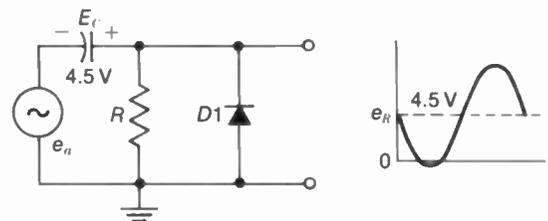

FIGURE 14-10 POSITIVE DC INSERTION WITH DIODE DC RESTORER.
**Positive dc restorer.** At the grid of the picture tube, the polarity of the dc insertion is positive, to reduce the negative bias for light scenes. For positive dc insertion in Fig. 14-9, the battery would be reversed in a or the diode inverted in b. The results are shown in Fig. 14-10. Here the negative peak of ac signal drives the diode cathode into conduction. The diode current charges  $C$  with the cathode side positive. Finally, the waveform here shows the negative peak of the signal clamped at zero in the positive dc restorer circuit.
5. In the diagram of Fig. 14-10, give the function of  $R$ ,  $C$ , and  $D1$ .